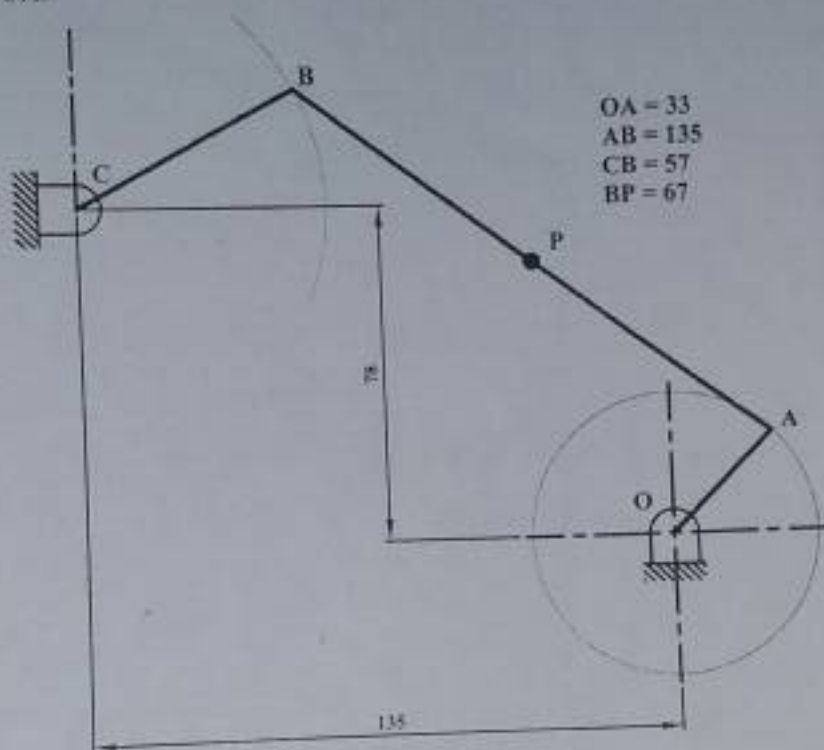

Figure 6
6. Figure 6 shows a linkwork where, the crank OA rotates clockwise about O at a constant speed. The link AB is attached to rod CB which swings about C. P is a point on the link AB. Plot the locus of P for one revolution of OA. (20 marks)